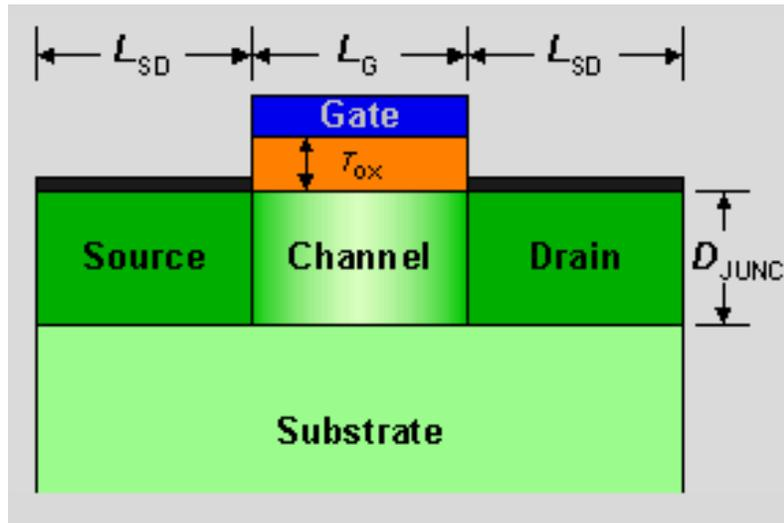

Figure 1: MOSFET Device structure.
- In this lab task, you are required to simulate three generations (varying 3 channel lengths) of devices with parameters specified in Figure 1 and Table 1 without impact ionization included in the model, and set the voltage sweep as Default.